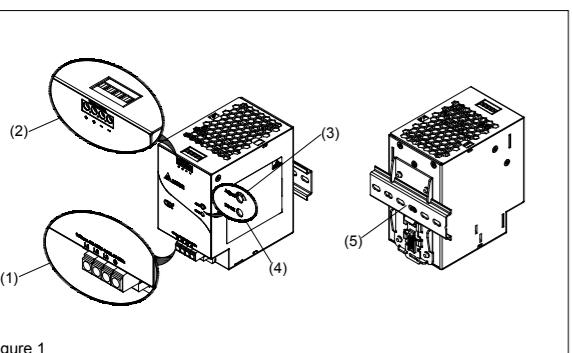
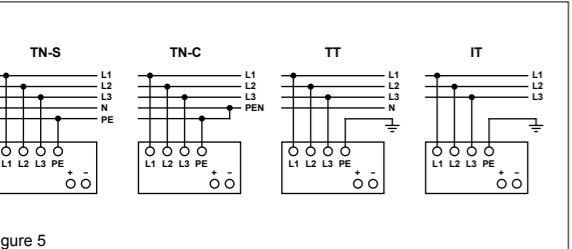

Figure 1
Figure 5
5.2. Anschluss der Ausgangsklemmen (Abb. 1, Abb. 5)
Verwenden Sie die Eingangsklemmen L1, L2, L3 und PE (Schutzleiter), um den 3-phasigen 400-500Vac-Anschluss herzustellen. Abb. 5 zeigt den Anschluss an die unterschiedlichen Netztypen.
5.1. Input connection (Fig. 1, Fig. 5)
Use L1, L2, L3 and PE connections of input terminal connector (see Fig. 5) to establish the 3 x 400-500Vac connection. Fig. 5 shows the connection to the various network types.
5.2. Output connection (Fig. 1 (2))
Use the "+" and "-" screw connections to establish the 24Vdc connection. The output provides 24Vdc. The output voltage can be adjusted from 24 to 28Vdc on the potentiometer. The green LED DC OK displays correct function of the output (Fig. 1 (4)). The device has a short circuit and overload protection and an over voltage protection limited to 35Vdc.